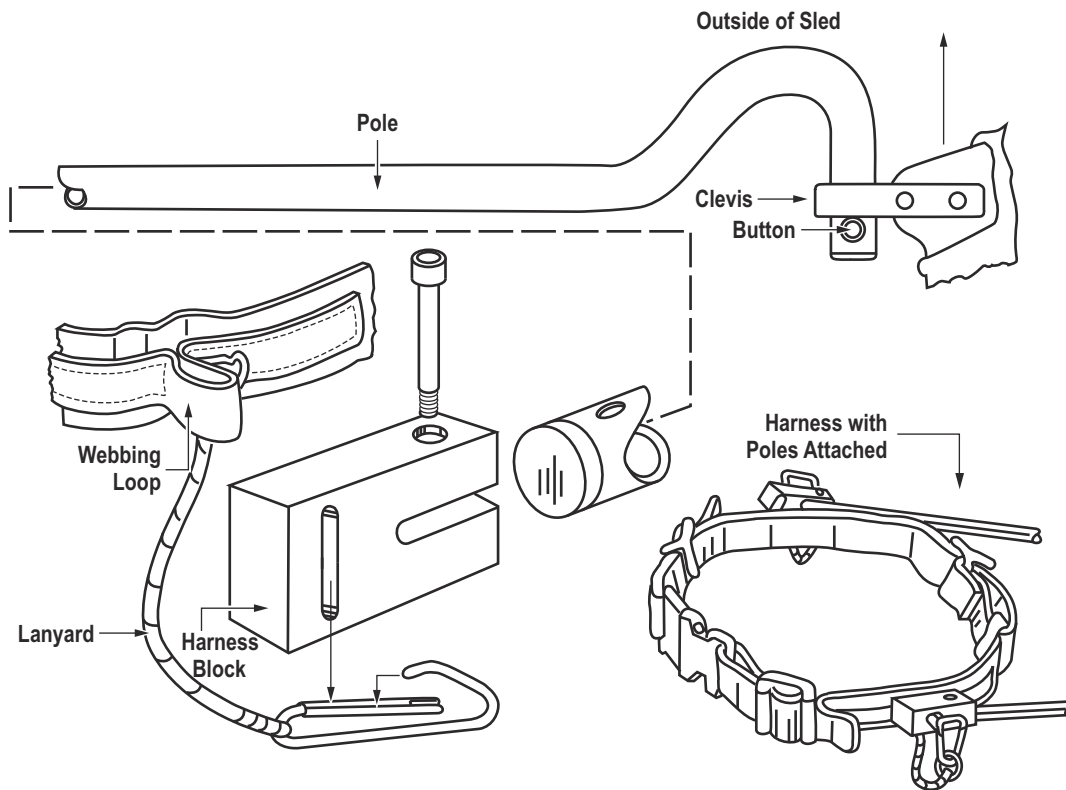

Figure 14-3. Attaching the Poles.
- Place the “hooked” end of the pole through the hole on the clevis while depressing the snap button and ensuring the bend is toward the outside of the sled. Assemble pole halves by depressing snap button into the larger sleeve, aligning the snap button with the hole (see fig. 14-3 on page 14-12).